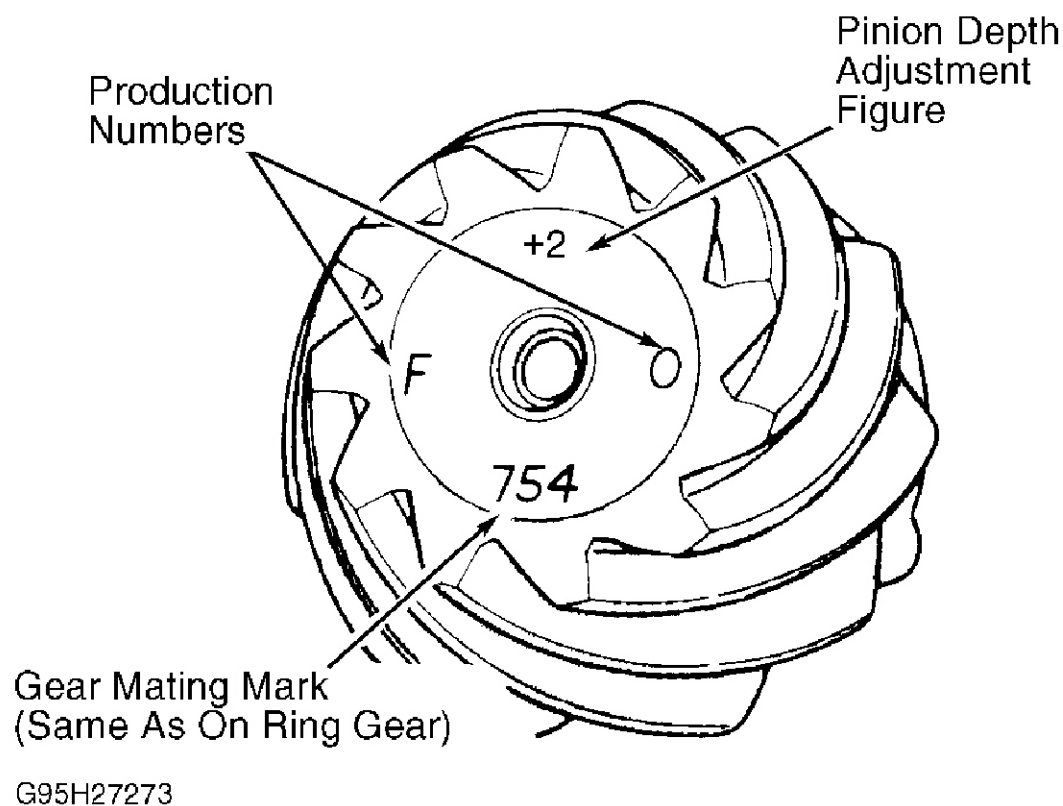

Fig. 7: Drive Pinion Head Markings
3. Slide dial indicator block over to arbor. Move dial indicator block back and forth (perpendicular to arbor) to get highest reading. This reading, added together with plus (+) or minus (-) figure etched on drive pinion head, is thickness of shim pack necessary for proper pinion depth adjustment. See Fig. 7.
NOTE: A positive (+) value figure on drive pinion head indicates distance between ring gear centerline and drive pinion must be increased by number of thousandths marked on pinion head. A negative (-) value figure indicates distance must be decreased. A zero (0) figure etched on drive pinion means to use shim thickness as determined by this procedure. See Fig. 7.